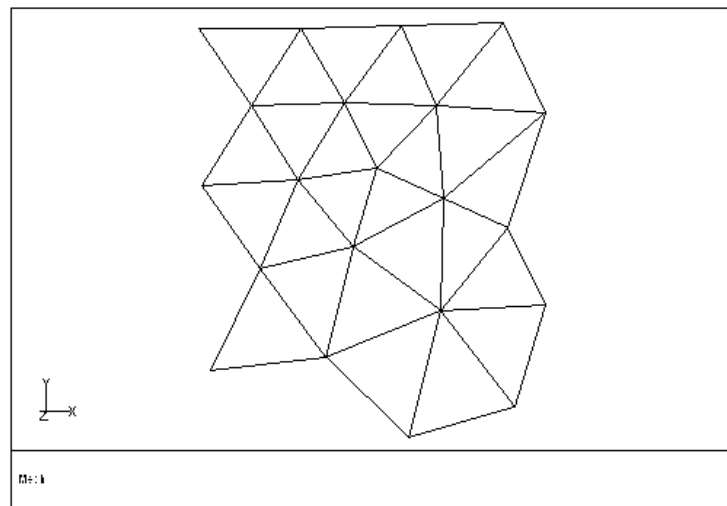

Figure 1.19: Surface Mesh After Node Smoothing
- (f) Click **Smooth** in the **Operation** group box (Figure 1.19).